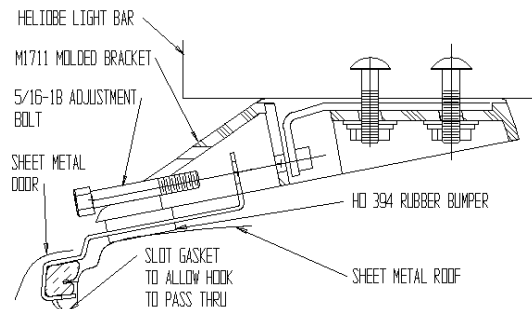

Figure 1
Check to see that all components shown in figure 1 are included.
- B. Place the light bar on the vehicle roof. The unit is usually located approximately over the drivers head with the hook located above or near the center door post. **CAUTION** Water may leak into the vehicle if the hook is improperly positioned. With the hook in the correct position, cut a slot in the gasket where the hook must pass through. See figure 1.